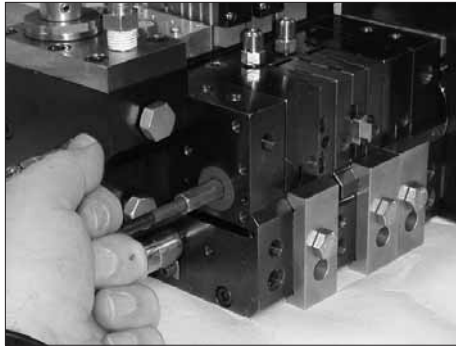

Figure 7-53 Using the shaft puller to remove the pump shaft
8. See Figure 7-53. Using the shaft puller, remove the pump shaft by slightly rotating it in both directions while pulling.